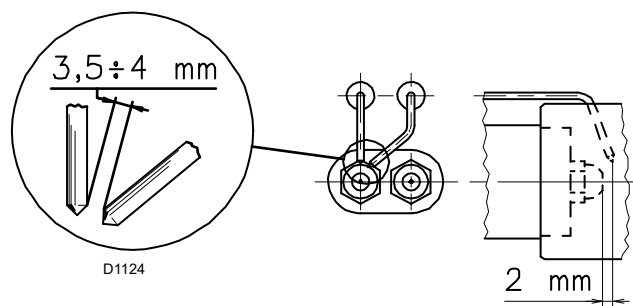

Fig. 14
Check that the electrodes are positioned correctly, as in Fig. 14, complying with the dimensions indicated.
- The nozzle for the 1st stage of operation is the one beneath the ignition electrodes, Fig. 14 on page 19.